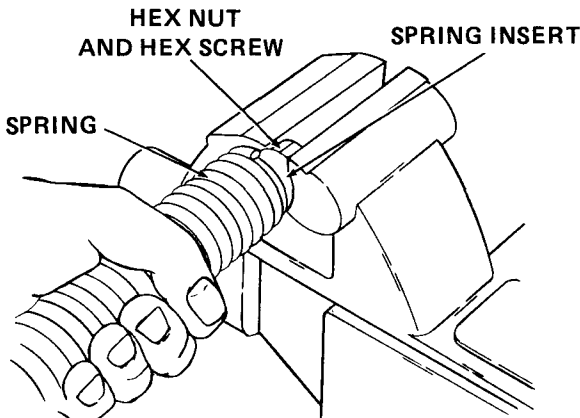

Figure B-25
13. Assemble spring (12) onto spring insert (13) as follows:
- a. Thread one 3/8-16 nut onto one 3/8-16 hardened bolt (grade 5 or 8). See Figure B-25. (Hardware not provided with hitch.)
- d. Screw spring onto spring insert until it is even with edge of spring insert. Refer to Figure B-25.